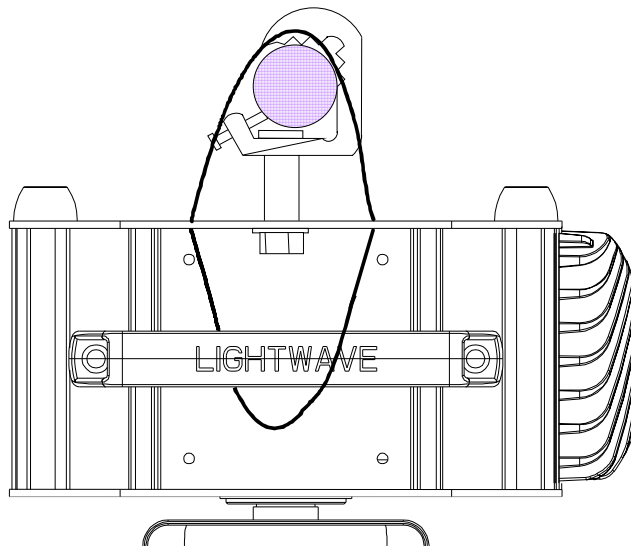

Figure 1.9. Safety Cable Installation
3. Loop the safety cables through an outer hole on the base of the unit, around the handle, and out the other outer hole. Refer to Figure 1.9.